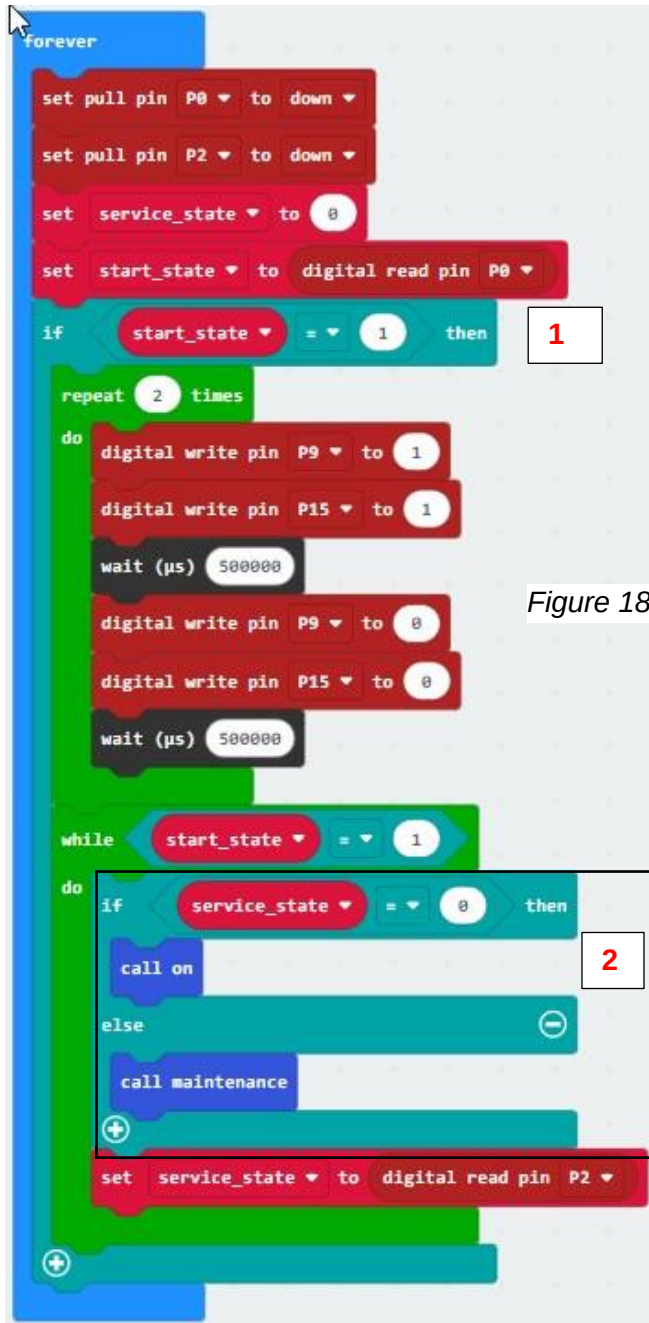
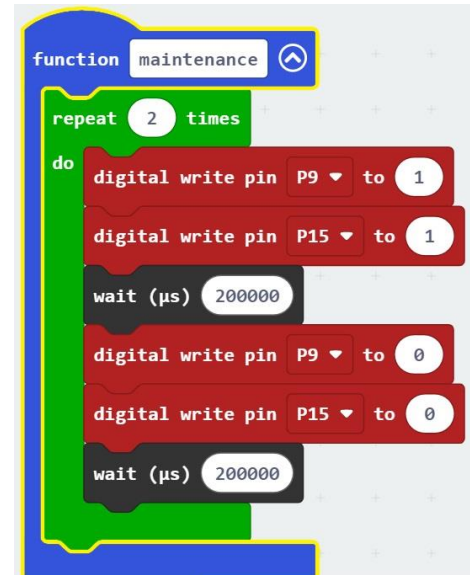

Figure 18
Figure 19
- 1) "forever" function that starts as soon as we turn on the device (**Figure 18**).
2) "maintenance" function which starts the maintenance sequence (the yellow lights alternately flash every 200 milliseconds) **Figure 19**
When the machine is powered up, the digital pins P0 (Start Push-button) and P2 (Maintenance switch) are put into pull-down mode (**Figure 18**)
- **start_state**: this variable is assigned the value that is read from the **digital_pin_1**, which represents the status of the P0 “Start” Push-button (note **1** in Figure 18).
So, if the P0 (Start Push-button) is pressed the sequence starts, otherwise it remains in waiting state. Once the sequence has started, the yellow lights blink twice for 0.5 seconds (“repeat/do”) and then enters in the “while/do” condition. Here we found the logic block “if/else” which checks the value of the “service_state” variable, which depends on the “Maintenance_switch” status: (note **2** in Figure 18)
The two functions, 1) “forever” (**Figure 18**) and 2) “maintenance” (**Figure 19**), remain unchanged whether the program is implemented with or without overlapping of the red lights. Please refer to the functions already explained at page 14.